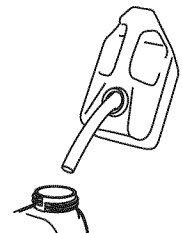

Fig. 6
2. Place the gas container's spout into the fill hole on the fuel tank and fill the tank (Fig. 6)